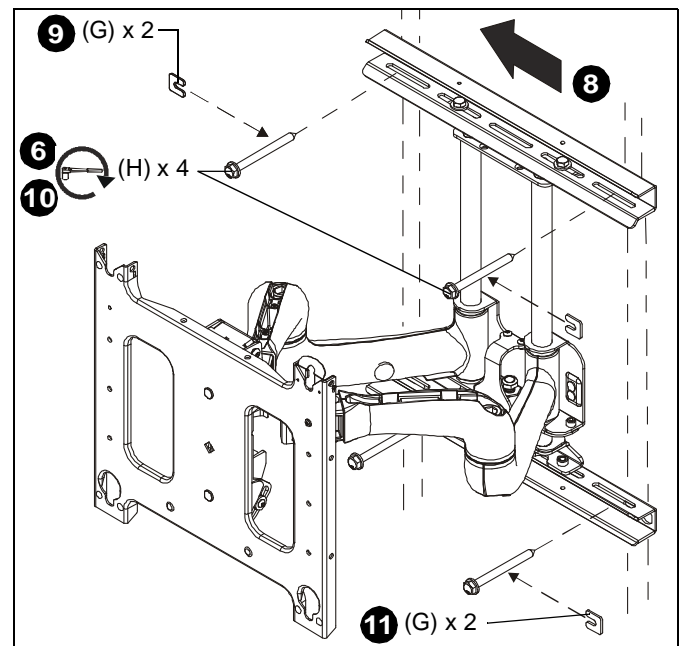

Figure 2
6. Partially install two 5/16" x 3-1/2" lag bolts (H) into upper pilot holes. DO NOT tighten at this time. (See Figure 2)
8. Adjust mount lateral position left until lag bolts are seated in mounting slots in upper wall channel. (See Figure 2)
9. Place two installation washers (G) over two lag bolts (H). (See Figure 2)
10. Install two 5/16" x 3-1/2" lag bolts (H) through mounting holes in lower wall channel and into pilot holes. (See Figure 2)
11. Place two installation washers (G) over two lag bolts (H). (See Figure 2)